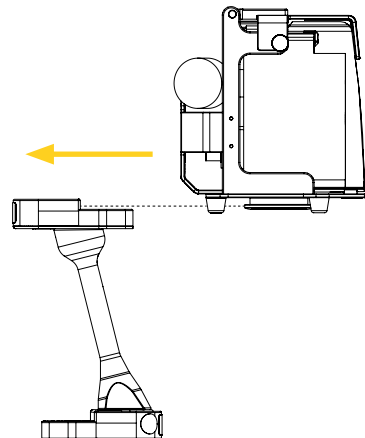

Figure 20: Removing the medical device from the Safety MD-Transporter (horizontal, angular)
1. Press and hold the quick release button of the Safety MD-Transporter, then pull the medical device's mounting bracket vertically (Figure 19) or horizontally (Figure 20) until the disc is out of the mounting system.